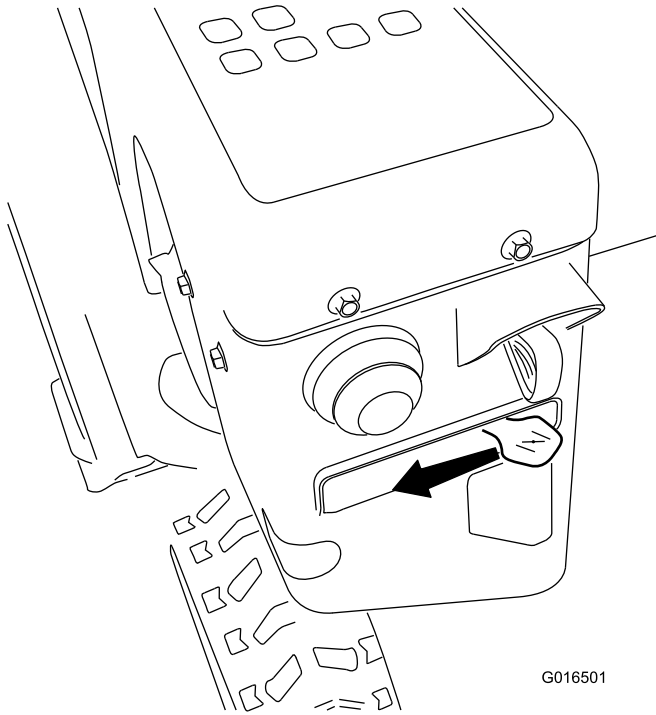

Figure 29
5. Move the choke to the Choke position (Figure 29).